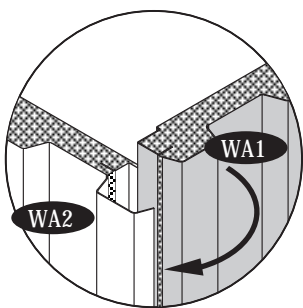

Fig.1
33. Insert the wall panel (WA1) into the base 'U' channel as follow fig.1,2,3 & 4. Make sure the panel edge position. See fig.5. The panel must be close to each other as fig.4.